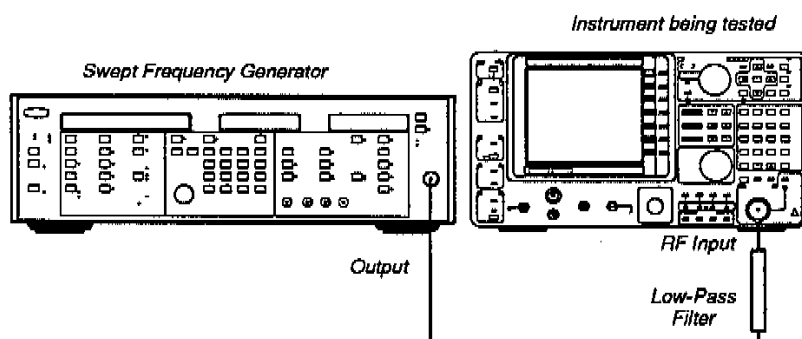

Figure 4-8. Test Equipment Setup for the Second Harmonic Distortion Check.
2. Connect a 50 Ω cable from one of the swept frequency synthesizers through the K&L 4L51-15-B/B low-pass filter to the instrument RF INPUT connector (as shown in Figure 4-8).